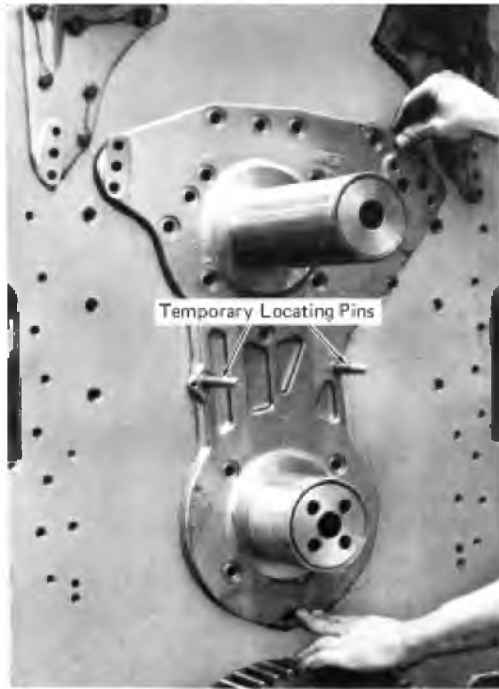

Fig. 7-5 - Idler Stubshaft Bracket Application
5. Install two temporary locating pins, Fig. 7-5, into the idler gear stubshaft bracket mounting holes in the crankcase end plate.